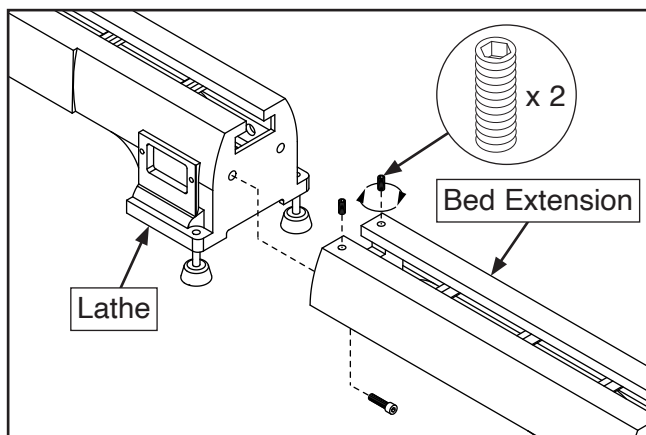

Figure 3. Raising bed extension.
6. Thread set screws (see **Figure 3**) into top of bed extension, then tighten or loosen set screws to fine tune bed extension height.
- If bed extension sits *below* surface of lathe bed, rotate set screws clockwise to raise bed extension until edge of bed extension is flush with lathe bed (see **Figure 3**), then adjust bed extension feet to level bed surface.